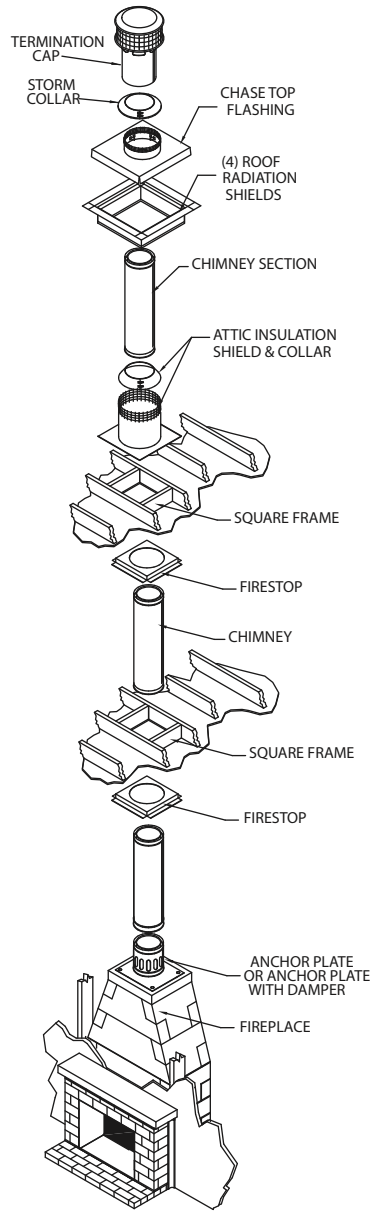

Figure 4
5. Frame Openings: From the ceiling, drop a plumb bob to the center of the fireplace's flue outlet and mark this center point on the ceiling. Refer to **Table 1** for the framing dimensions. Mark appropriate cutting lines around the center point. Cut a square hole in the ceiling. Frame a level, square opening centered over the hole that you have cut. Frame openings at each floor level above the Fireplace (**Fig. 4**). These openings are to hold the Firestop and Attic Insulation Shield. Locate each opening by dropping a plumb bob to the four corners of the opening below. Maintain the minimum 2-inch clearance/air-space.
7. Install Firestop: A Firestop is required on each floor penetration in multistory installations. Building Codes require a Firestop at every floor/ceiling level, including where the chimney penetrates into the attic. **Figure 4** shows a typical 2-story installation with an attic. **Note:** a Firestop is not installed where the chimney penetrates through the roof. The Firestop is